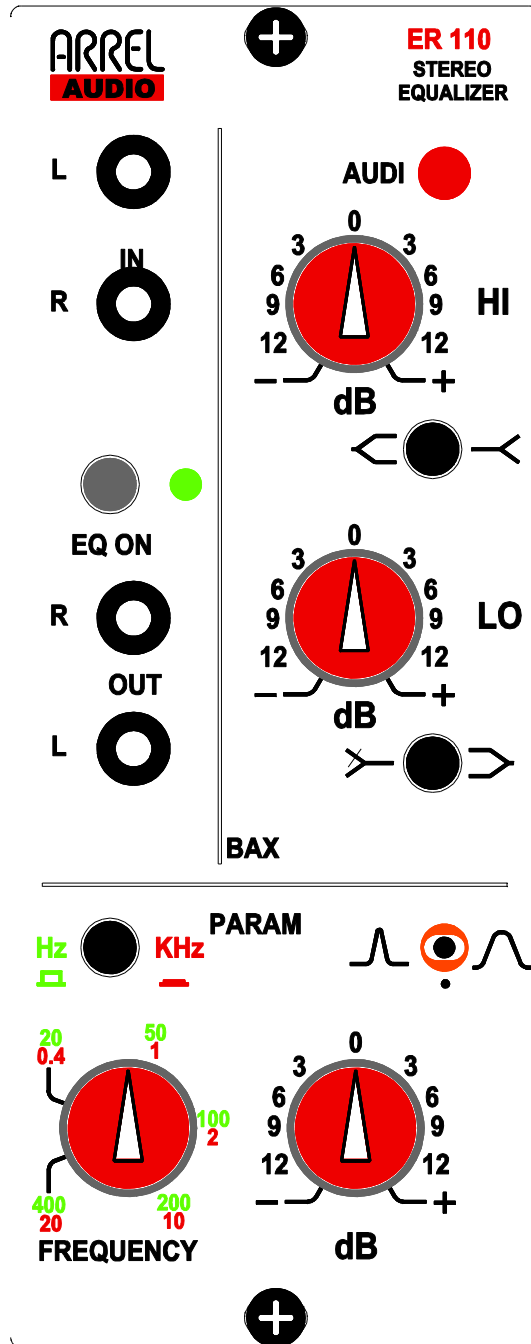

FIG. 1 ER-110 Front Panel
3.5 mm connectors for the input signal (Fig.1).
3.5 mm connectors for the output signal (Fig. 1).